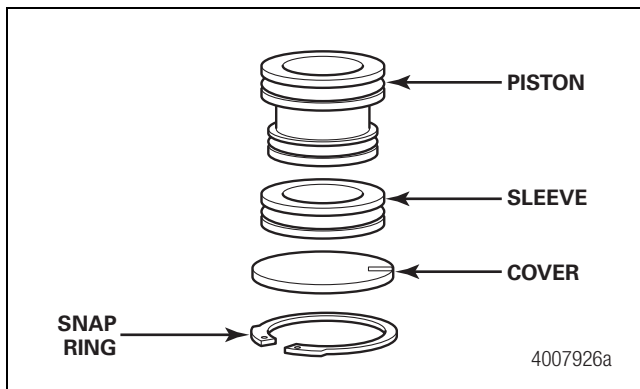

Figure 3.9
1. Remove the snap ring. Figure 3.9.